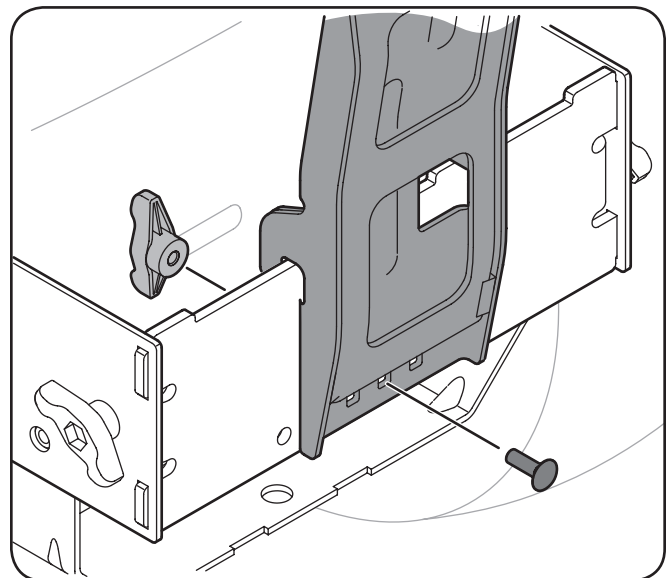

Figure 4-9
3. Secure the vertical support bracket to the mounting assembly using a carriage bolt (710-0276) and wing knob (720-04122) from hardware pack 689-00328A. See Figure 4-9.